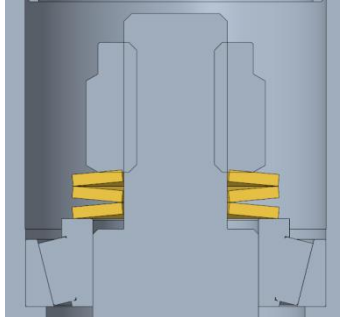

Fig.2
3. Install the inner ring of the upper bearing (8) and the three-disc springs (7) in order from the top of the rack sleeve (as shown in Fig.2).
4. Install the nut (6) and tighten it to a torque of 70~80 N•m (52~59 Ft-lbs).